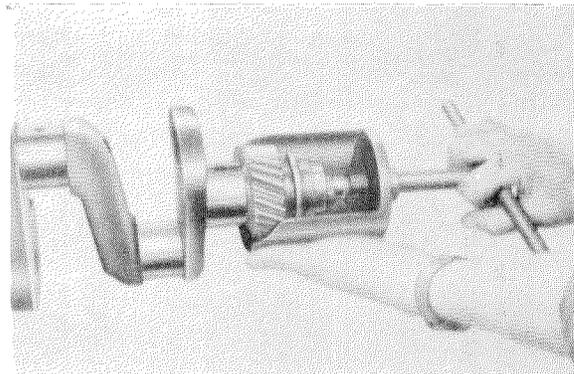

Figure 03-5/1
8. Pull off the crankshaft timing gear and the spacer with the Extractor Part No. 1365890833 (see Figure 03-5/1). Take the two Woodruff keys out of the grooves in the shaft.